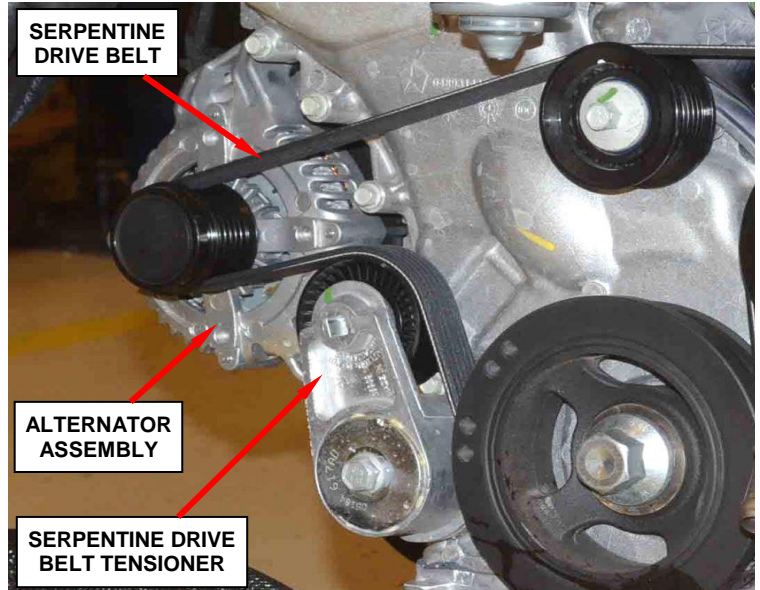

Figure 1 – Accessory Drive Belt Tensioner
2. Rotate the serpentine drive belt tensioner counterclockwise until it contacts its stop and remove the accessory drive belt, then slowly rotate the tensioner into the free-arm position (Figure 1).
6. Rotate the accessory drive belt tensioner counterclockwise until it contacts its stop and remove the accessory drive belt, then slowly rotate the tensioner into the free-arm position (Figure 1).